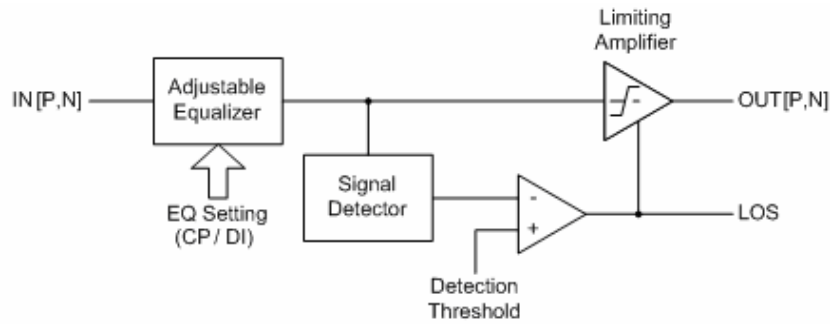

FIGURE 4. FUNCTIONAL DIAGRAM OF A SINGLE CHANNEL WITHIN THE QLx111GRx
The QLx111GRx is an advanced lane-extender for high-speed interconnects. A functional diagram of QLx111GRx is shown in Figure 4. In addition to a robust equalization filter to compensate for channel loss and restore signal fidelity, the QLx111GRx contains unique integrated features to preserve special signaling protocols typically broken by other equalizers. The signal detect function is used to mute the channel output when the equalized signal falls below the level determined by the Detection Threshold (DT) pin voltage. This function is intended to preserve periods of line silence (“quiescent state” in InfiniBand contexts). Furthermore, the output of the Signal Detect/DT comparator is used as a loss of signal (LOS) indicator to indicate the absence of a received signal.
As illustrated in Figure 4, the core of the high-speed signal path in the QLx111GRx is a sophisticated equalizer followed by a limiting amplifier. The equalizer compensates for skin loss, dielectric loss, and impedance discontinuities in the transmission channel. The equalizer is followed by a limiting amplification stage that provides a clean output signal with full amplitude swing and fast rise-fall times for reliable signal decoding in a subsequent receiver.